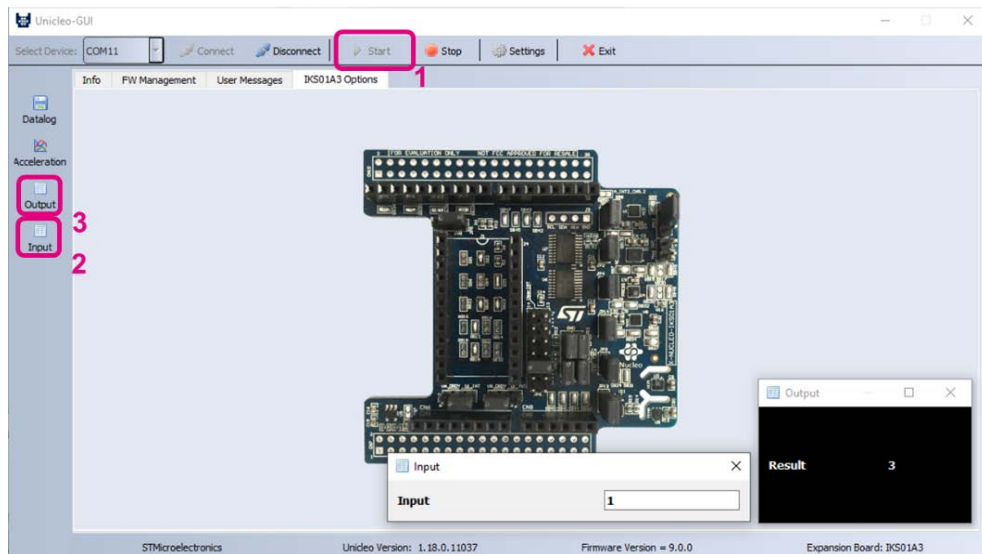

Figure 19. Unicleo-GUI application
After the Unicleo-GUI application starts, click *Start* (1) and open windows *Input* (2) and *Output* (3) as shown in Figure 19. The program created in Algobuilder runs and it is possible to type the desired input into the *Input* window and the output (multiplied by 3 in this case) is shown in the *Output* window.